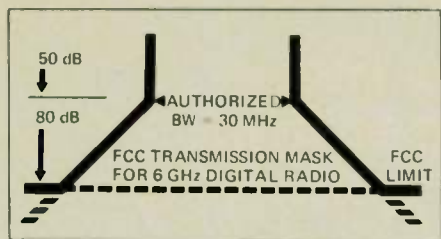
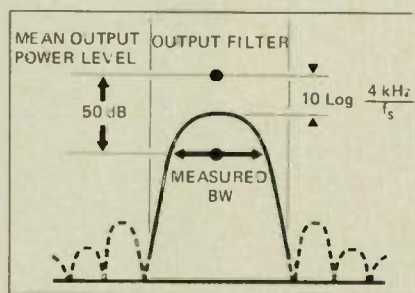

Fig. 1 Graphical representation of FCC transmitted spectrum specifications.
Fig. 3 Spectrum output level relative to mean output power.
Applicable specifications are usually given by the radio manufacturer. These specifications can also be found in FCC publications, as indicated above. A graph of the specifications for a 6 GHz radio is shown in Figure 1. Two points need to be adjusted and/or verified. The spectrum width 50 dB from the mean transmitted power should not exceed the authorized bandwidth, and the output level should be at least 80 dB down outside the frequencies within the FCC mask.
**Occupied Bandwidth:** The bandwidth is measured at the 50 dB-down point, as shown by the FCC mask in Figure 1. The 50 dB bandwidth calls for a relative-level measurement in dB rather than an absolute power determination in dBm. What has to be measured is the occupied spectrum width at the point where the spectrum is 50 dB down from the "mean output-power level," as illustrated in Figure 3. If the power outside the output-filter bandwidth is ignored, then the mean output power is the same as the unmodulated level, and the relative-level formula  $10 \log (B_n/f_s)$  holds.